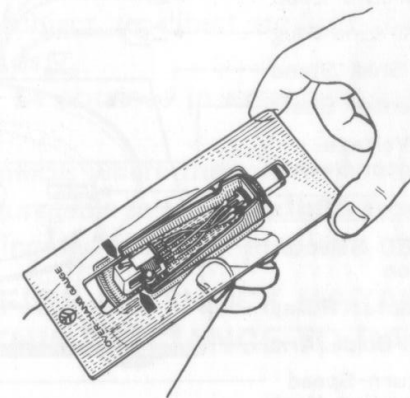

Fig. 8 Adjusting the Over-hang
2. Slip the overhang gauge over the head shell as shown in Fig. 8 and move the cartridge so that the stylus point lines up with the gauge arrow-marks. Now tighten the cartridge locking screws. This completes correct stylus overhang adjustment for this turntable.